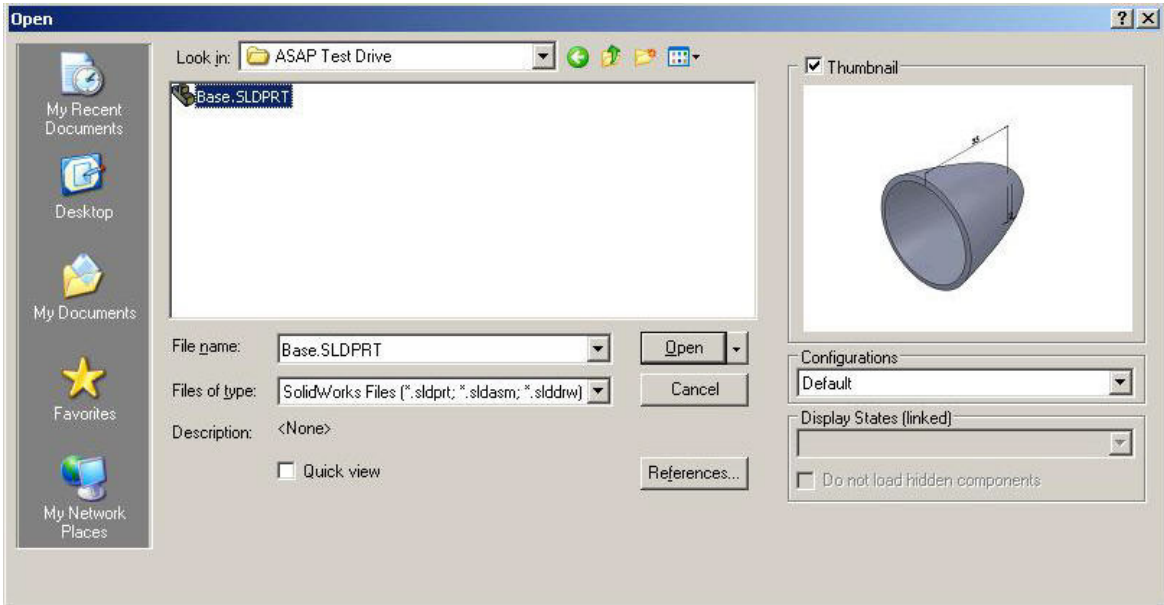

Figure 7 Opening the Base.SLDPRT file in SolidWorks
- 2 On the File menu, click Open (File, Open), and select the file, Base.SLDPRT. See Figure 7.